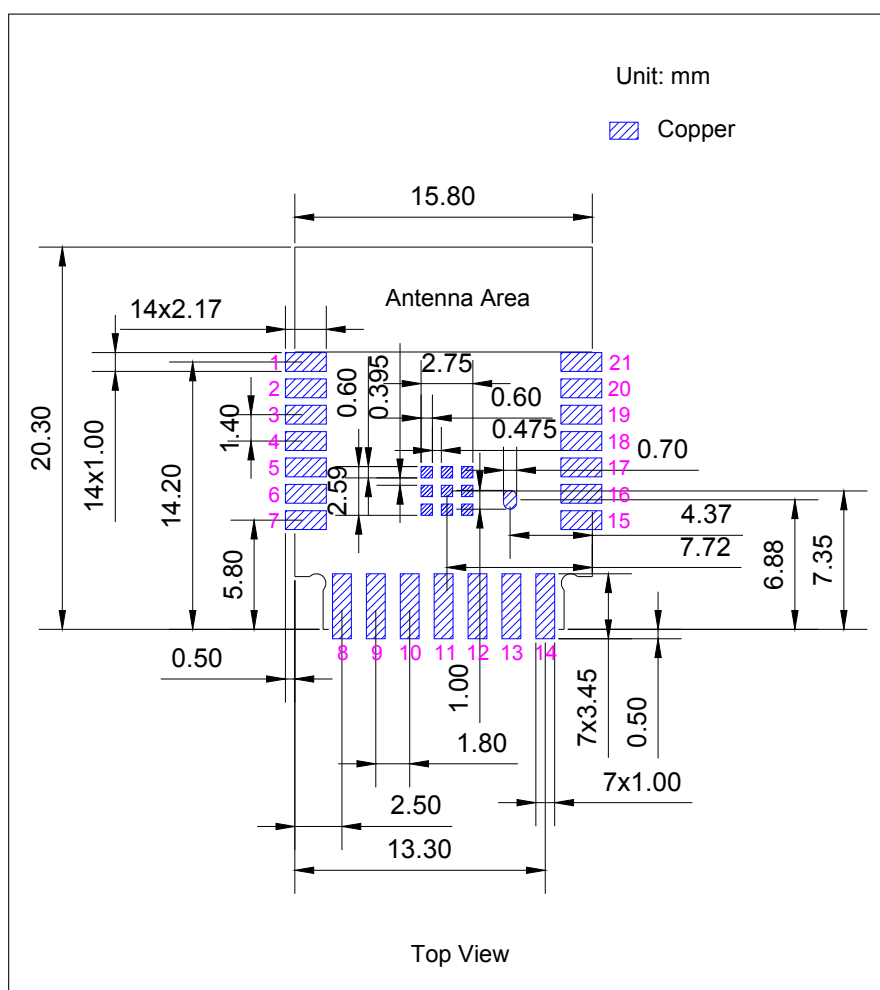
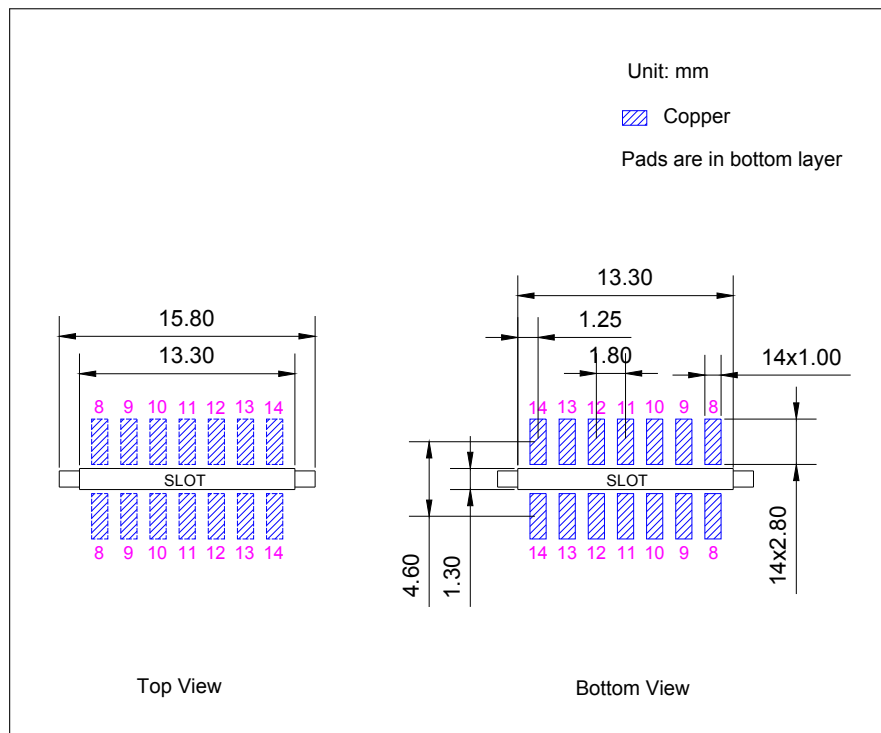

Figure 11-1. Recommended PCB Land Pattern for SMD Soldering
Figure 11-2. Recommended PCB Land Pattern for Vertical Module Soldering
- Figure for the recommended PCB land pattern with all the dimensions needed for PCB design. See Figure 11-1 *Recommended PCB Land Pattern for SMD Soldering* and Figure 11-2 *Recommended PCB Land Pattern for Vertical Module Soldering*.
- Source file of the recommended PCB land pattern to measure dimensions not covered in Figure 11-1 and Figure 11-2. You can view the source files for ESP8685-WROOM-06 with Autodesk Viewer.